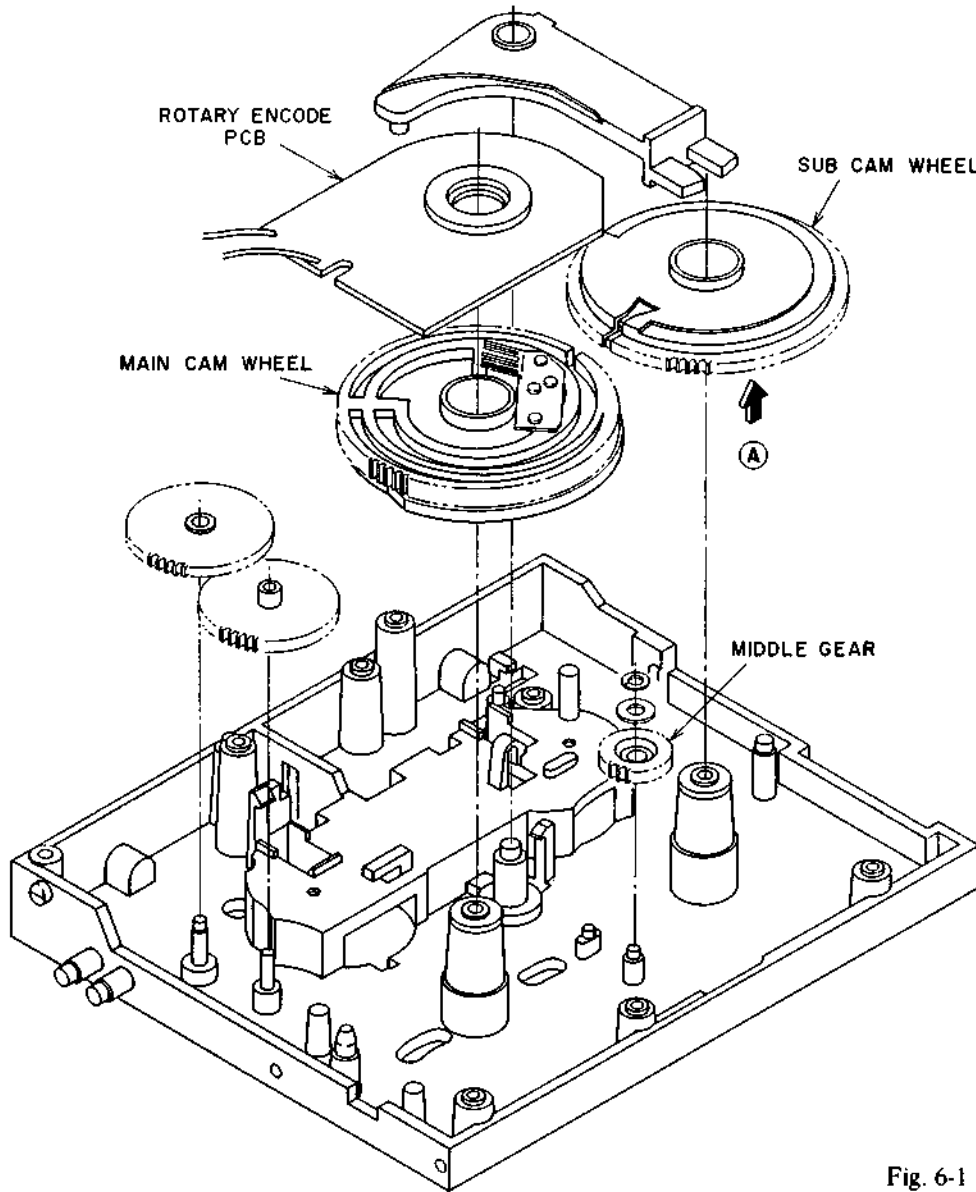
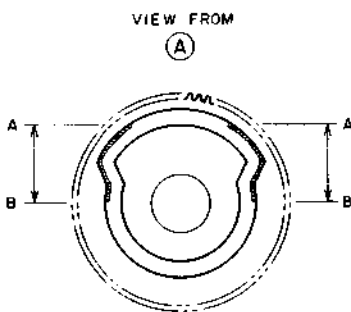
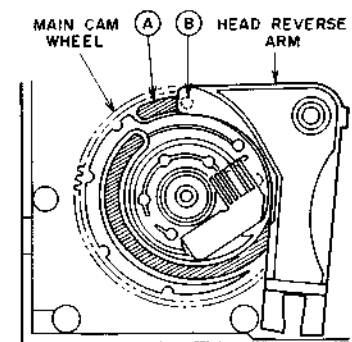

Fig. 6-1
Fig. 6-2
Fig. 6-4
- 1) Lock at SUB CAM WHEEL from direction (A) (Fig. 6-1) and apply grease to areas A to B (the side of the groove shaded with oblique lines) as in Fig. 6-2.
- 4) Insert the head Reverse arm pin (B) (see Fig. 6-1) into groove (A) in MAIN CAM WHEEL as in Fig. 6-4.